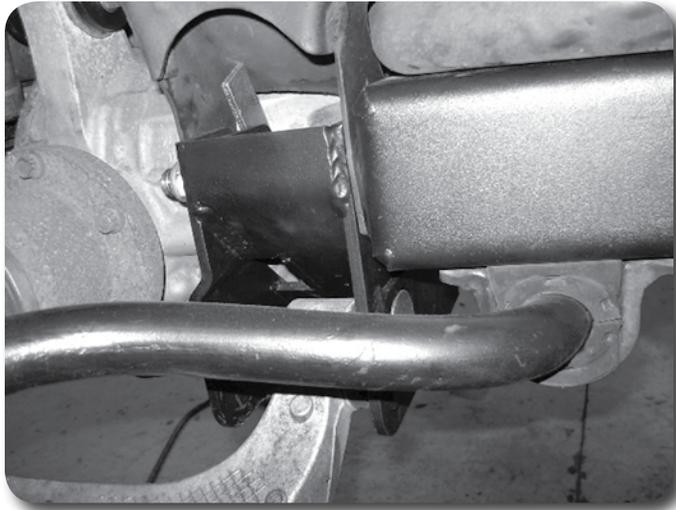

Figure 24
41. Fasten the differential to the rear crossmember (Figure 24) with a 7/16" x 3-3/4" allen head bolt in conjunction with the provided nut tab. Leave hardware loose.